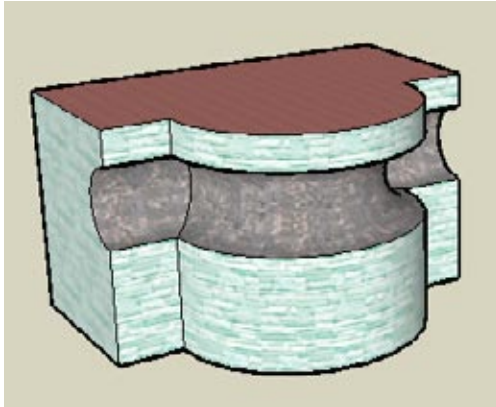

Figure 2-10
3. Activate Follow Me and click the arc face. The volume is removed only along the predefined path, as shown in Figure 2-10.